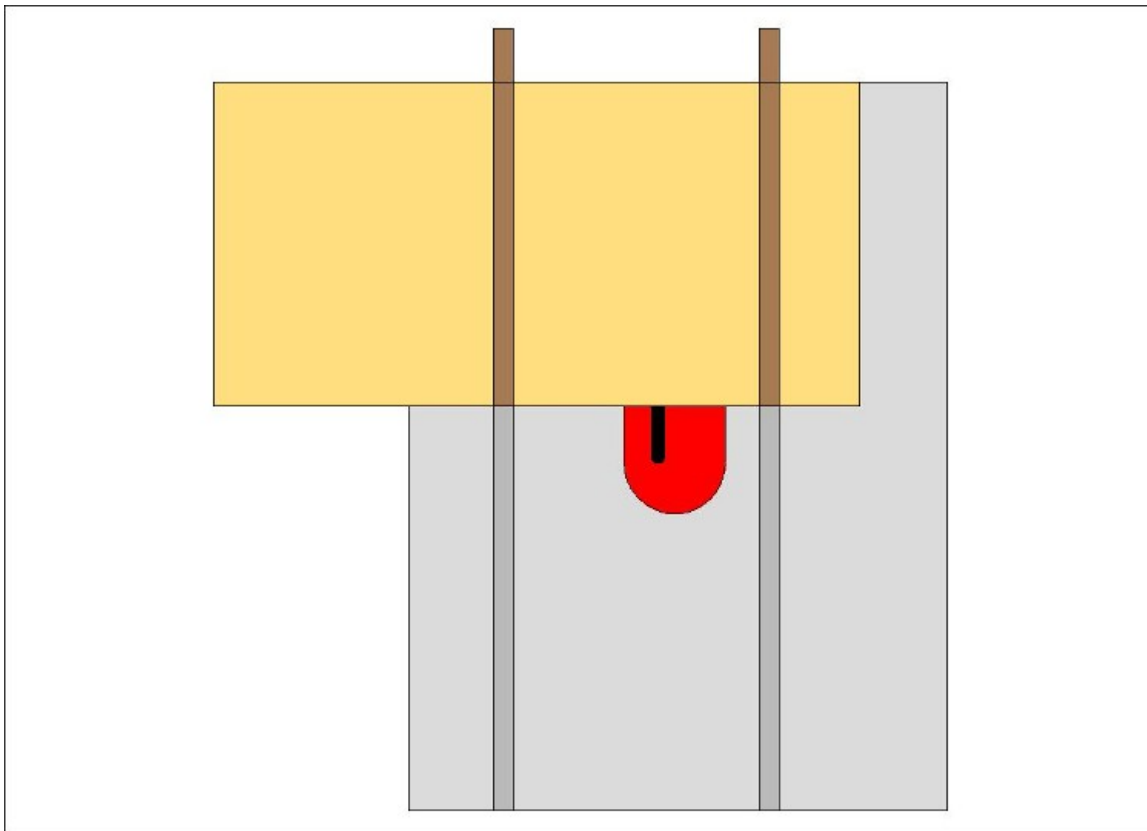

Figure 2 Right runner in place.
8. Fasten the left runner in place as you did before with the right runner (figure 2).